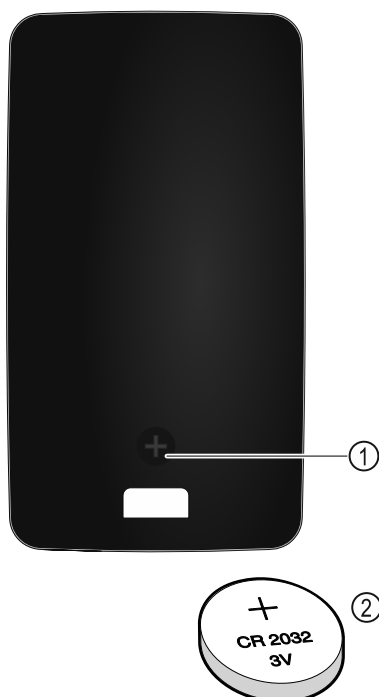

Fig. 151
The remote control is powered by a 3V CR 2032 battery Fig. 151 (2) available from specialist retailers.
- Undo screw Fig. 151 (1) on the back of the remote control.